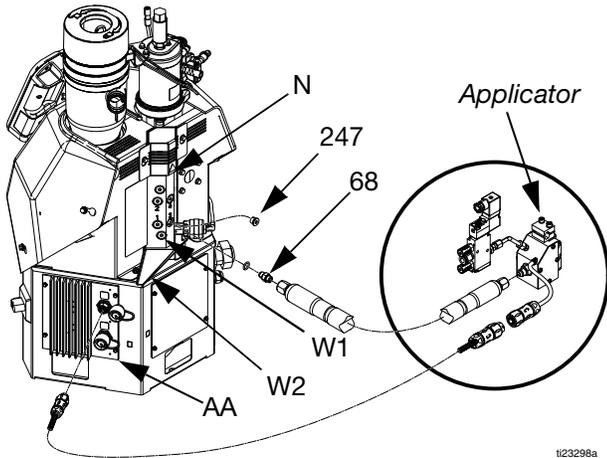

FIG. 9
6. Install heated hoses, see FIG. 9:
- Place a rag on the drain tray (W2) attached to the melter. Residual oil may be in the system from the factory. See FIG. 9.
- Use a 1/4 in. allen wrench to remove the drain port plug (W1). See FIG. 9.
- When fluid stops draining, re-install drain port plug (W1) then remove rag. See FIG. 9.
- Remove plug (247) from the lowest numbered outlet on the melter. Do not use the drain plug (W1). See FIG. 9.
In the following step, the o-ring side of the hydraulic fitting (68) faces the system. See FIG. 9.
- Install the supplied hydraulic fitting (68) with an o-ring into the open port and tighten with an 11/16 in. wrench or socket.
- Install hose onto hydraulic fitting (68) with male electrical connector side toward the system. Use 11/16 in. wrench to tighten hose onto hydraulic fitting (68).
- Locate MZLP (AA) connector marked with same number as the hose fluid outlet port. Remove that connector cover then install connector from heated hose. See FIG. 9.
7. Install applicator(s), see FIG. 9:
- Connect heated hose fluid outlet to applicator fluid inlet. Use 11/16 in. wrench to tighten. See FIG. 9.
- For Graco applicators*, attach applicator electrical connector to heated hose electrical connector. See FIG. 9.